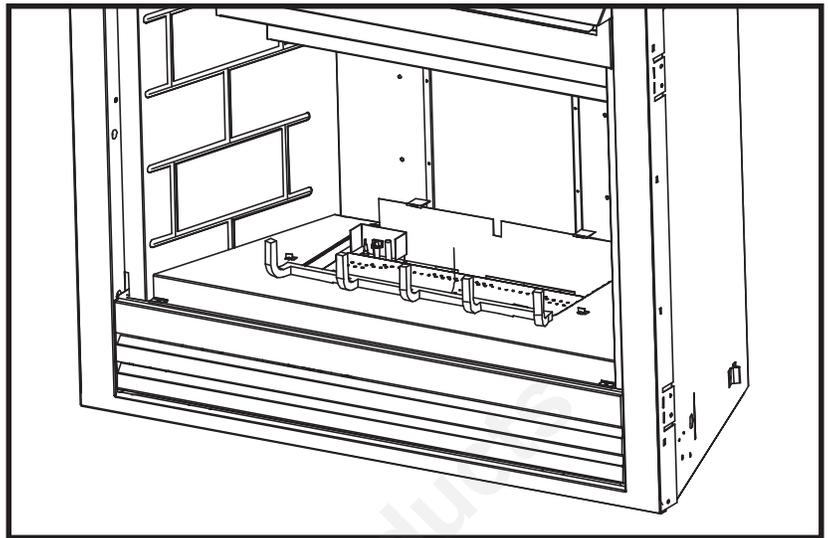

Figure 43
- Position the grate into the cutout in the refractory. Hook the grate into position using the tabs on the bottom of the grate. Make sure the grate is pulled forward on the refractory (see Figure 43).